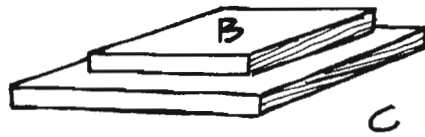
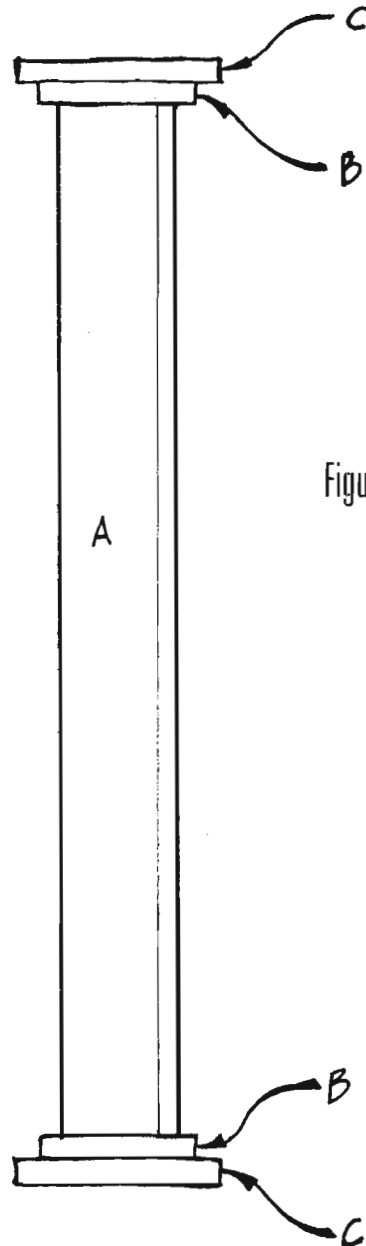

Figure 2
Figure 3
2. Center one small base (B) over one large base (C) as shown in *Figure 2*. Glue and nail the two pieces together using about four 3-penny finishing nails. Countersink the nails.
3. Repeat Step 2 using the remaining small base (B) and large base (C).
4. Center one base assembly on top of the stand. The large base should be facing up. (See Figure 3.) Use glue and the longer, 6-penny finishing nails to attach the base to the stand. Countersink the nails.